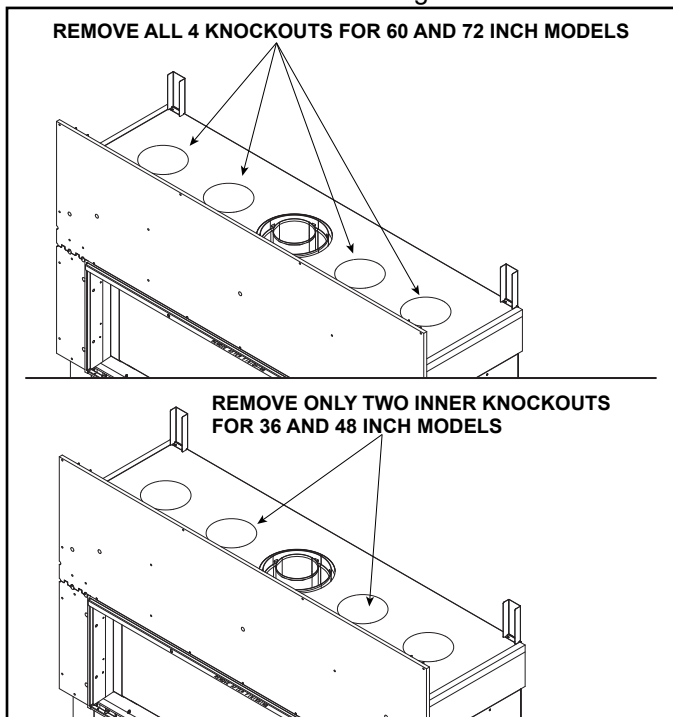

Figure 5.1 Remove Knockouts
1. Remove the appropriate knockouts, as called out above, from the top of the appliance by dislodging them with a hammer and then using a screwdriver to remove from the holes. See Figure 5.1.